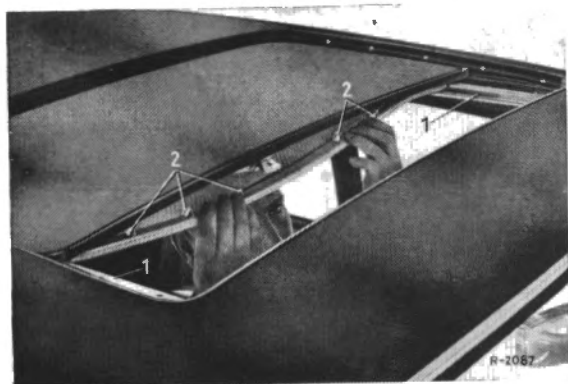

Fig. 78-1/1
4. Push the sliding roof back as far as it will go and remove the headlining (3) toward the front (Fig. 78-1/2).